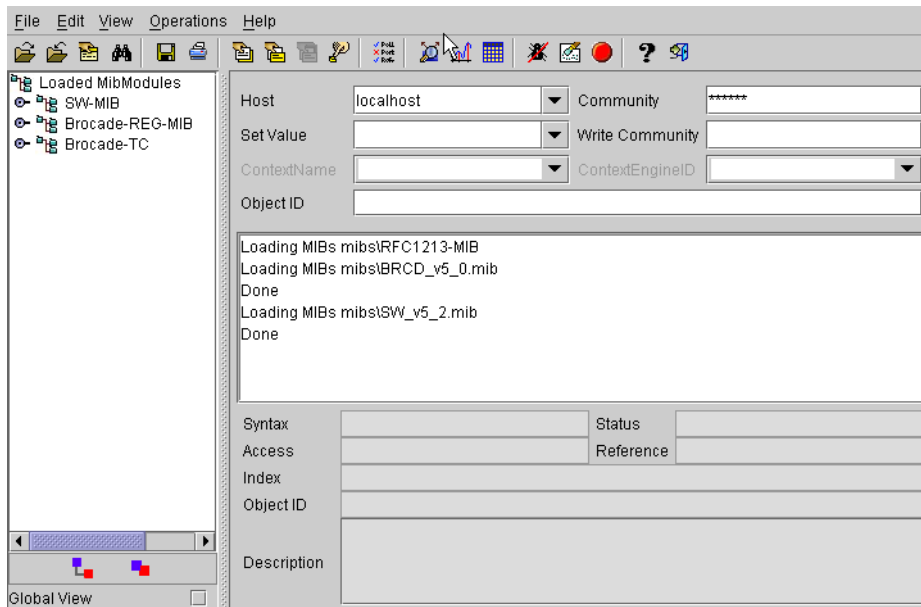

FIGURE 5 Configuring Fabric Watch using SNMP
2. Load the appropriate MIB files if you have not already done so. First load the Brocade common MIB file, SW.mib. If this is successful, the system displays a screen similar to Figure 5.
In Figure 5, the MIB browser populated the left side of the screen with a MIB tree that you can navigate.